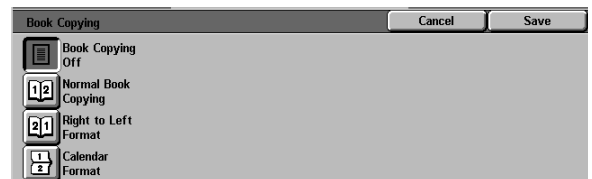

Figure 10: Book Copying screen with the Book Copying Off option selected
- 2 Touch the **Book Copying Off** button, as in Figure 10.